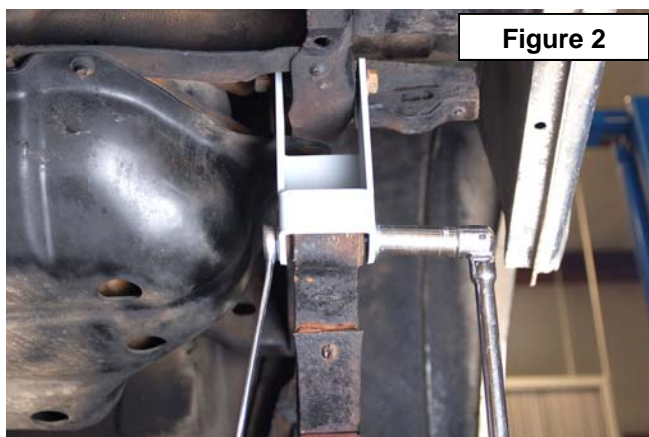

Figure 2
6. Install the new lifted shackles with factory hardware using a 21mm wrench. Do not tighten at this time. **See Figure 2.**